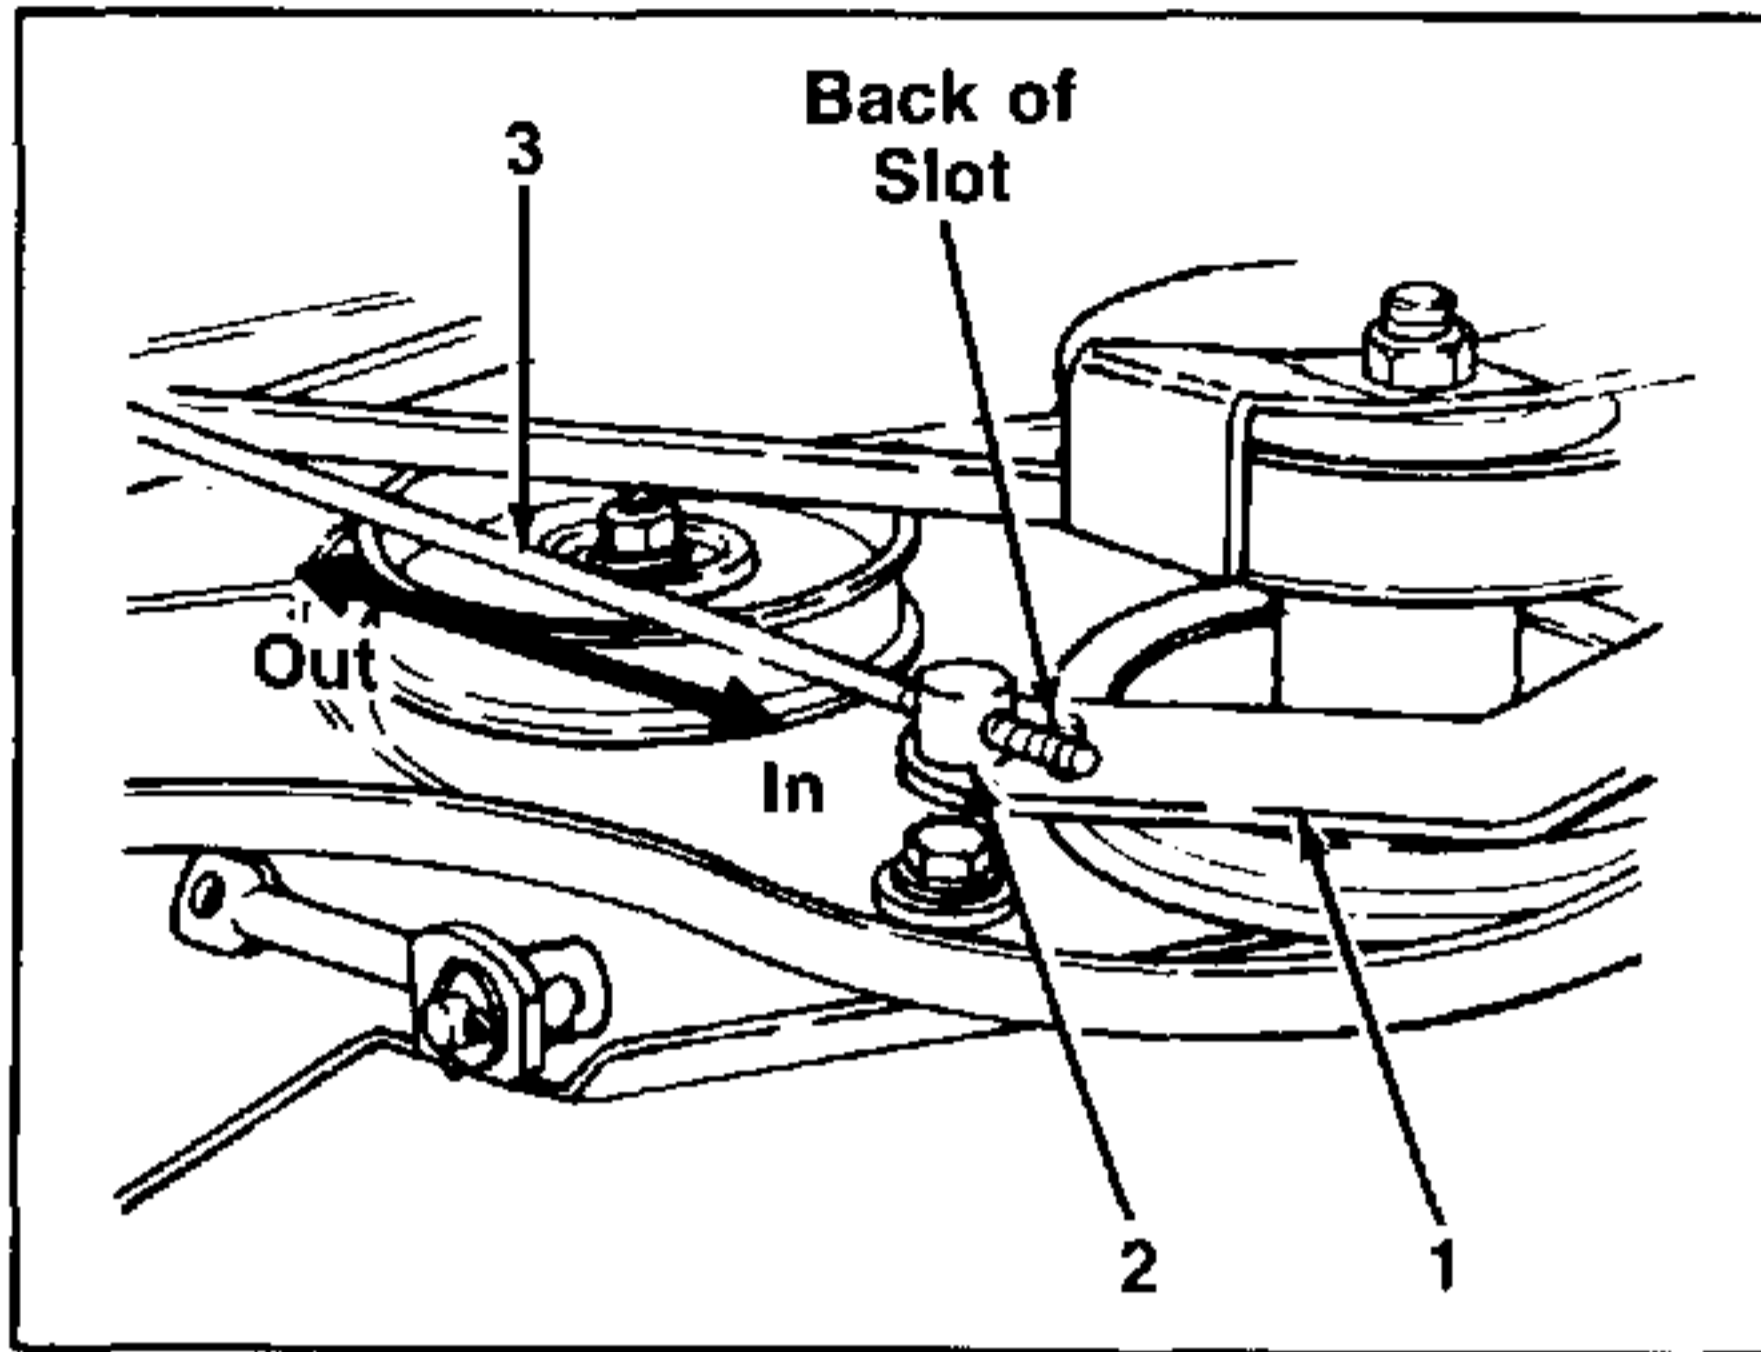

FIGURE 19.
- To attach the brake rod to the clutch rod, turn the brake rod in (shorten) or out (lengthen) of the ferrule mounted to the brake bracket assembly. Refer to figure 19.